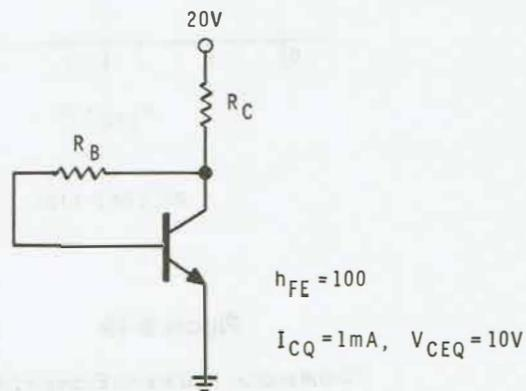

Figure 2-21
Refer to Figure 2-21 for questions 14 through 16.
LOAD LINE FOR THE CIRCUIT IN FIGURE 2-21
- B. Load line for the circuit in Figure 2-21.